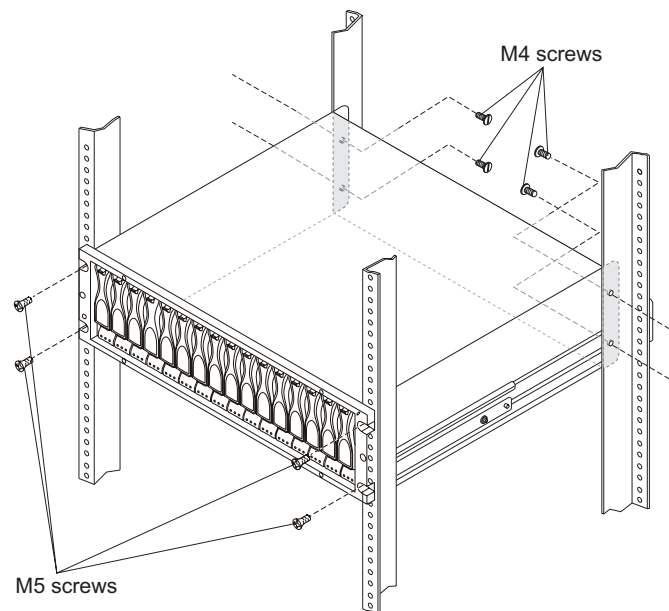

Figure 20. Securing the DS5020 to the rack cabinet
4. Secure the storage subsystem. Figure 20 shows how to secure the storage subsystem to the rack.
- c. Secure the front of the DS5020 using the four M5 screws as shown in Figure 20.